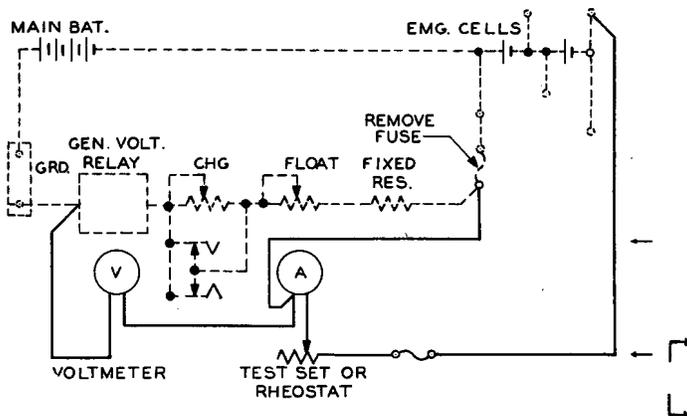
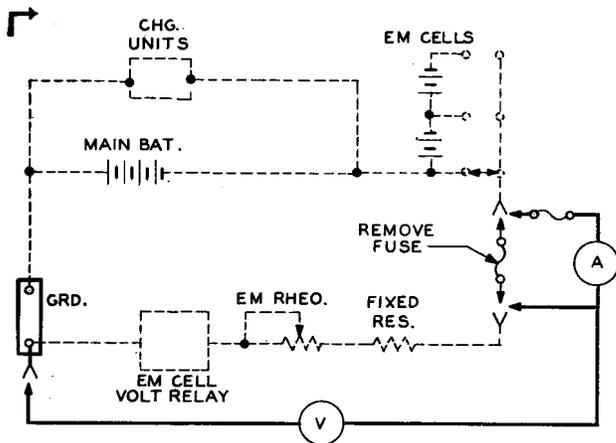

Fig. 2 - Connections for Voltage Relay Adjustment
Fig. 3 - Connections for Voltage Relay Adjustment With Regulated Charging Units
(1) Unregulated Chargers (See Fig. 2): With the coil hot, adjust the test set or rheostat to obtain nominal voltage and then adjust the float rheostat to give 0.5 amperes on ammeter or test set. Change of the float rheostat changes the voltmeter reading requiring alternate adjustment of the two rheostats to give correct current at nominal voltage.
(2) Regulated Chargers, Such as in the 302A Plant (See Fig. 3): Regulated charging units may be adjusted to maintain nominal voltage while EM rheostat is adjusted to correct current as specified in requirement 2.07(a).
(1) The holding effect of the contact arm in either position may be determined by noting the difference in voltage between the closing and opening values of the associated contacts. The connections for ascertaining this voltage are similar to those shown in Fig. 2 or 3. With Fig. 3, the voltage adjustments on the charging units may be used to vary the voltage. The closing or opening of the contact may be ascertained by noting the operation of the associated relays or, in the case of opening of the contact, a small quick movement of the contact arm may be noted as the contact arm moves away from the holding coil face. In making this test it will be necessary to strap out the associated voltage regulator interrupter or provide other means to insure that a stable battery potential is supplied to the contact arm for the duration of the test.
(2) The holding effect may be adjusted by loosening the associated holding coil adjusting screw locknut and turning the adjusting screw in or out of the holding coil. Turning the screw into the coil increases the holding effect; turning the screw out of the coil decreases the holding effect. Tighten the locking screw after each adjustment.
5. To revise Fig. 2 and add Fig. 3.